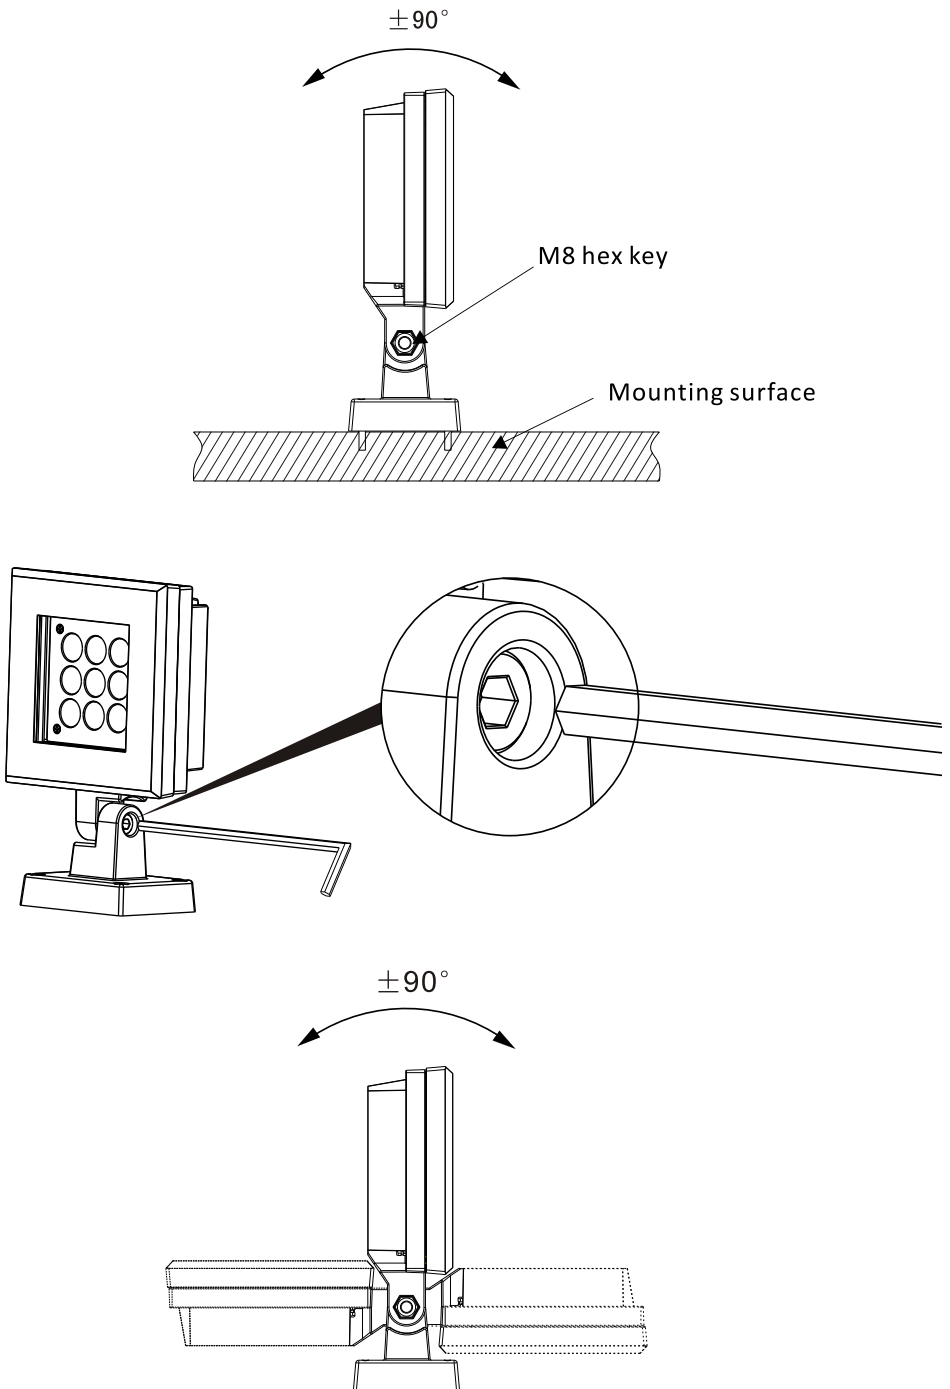

Fig.3
- To adjust the direction of the fixture use a #6 hex key to loosen the hex bolt, adjust the direction of the fixture, and then tighten the hex key (fig.3).